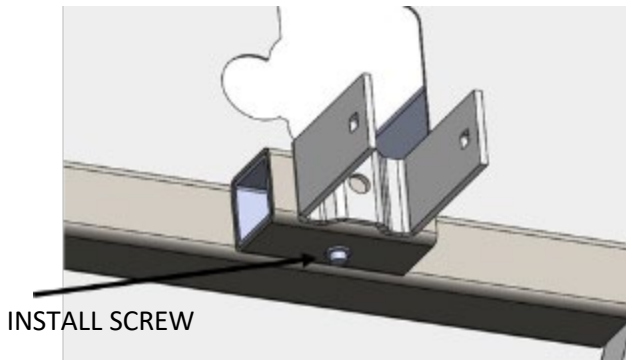

FIG. 6
STEP 7: REINSTALL THE LANDING GEAR LEG USING THE ORIGINAL 3/8" HARDWARE. TIGHTEN UNTIL SNUG (FIG. 6);